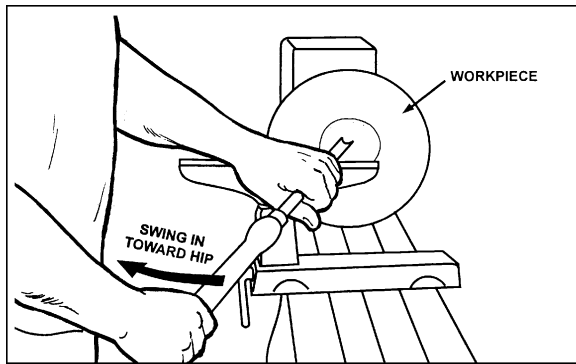

Figure 38
5. Place 1/2" bowl gouge on tool support at center of the workpiece with the flute facing top of bowl. The tool handle should be level and pointed toward the four o'clock position, as shown in Figure 38.
6. Use the left hand to control cutting edge of gouge, while right hand swings tool handle around toward your body (Figure 38). The flute should start out facing top of workpiece, and rotate upward as it moves deeper into the bowl to maintain a clean even curve. As the tool goes deeper into the bowl, progressively work out toward the rim. It may be necessary to turn the tool support into the piece as you get deeper into the bowl.